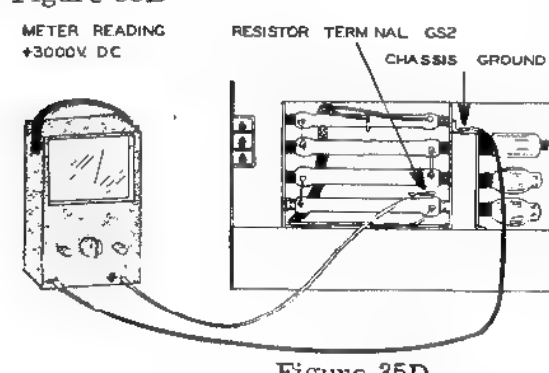

Figure 35D
- () Check the plate voltage between resistor terminal GS2 and chassis ground. This reading should be at or near 3000 volts DC. See Figure 35D for this test setup.